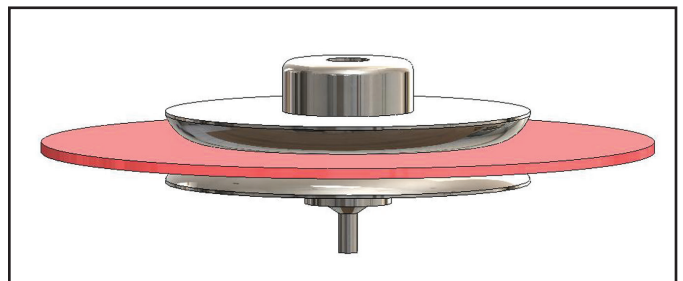

Figure 1: Diaphragm Subassembly
1. Remove adjusting screw assembly (10) completely out of the spring housing (7).
2. If valve is removed from the line, clamp the valve in a vise using the body (1).
3. Remove spring housing (7).
4. Remove range spring (8) and spring seat (9).
5. Remove diaphragm assembly parts (4), (5), and (6). See Figure 1.
7. Remove seat assembly (2) from body (1).
8. Place seat assembly (2) into body (1).
9. Refer to Figure 1. Unscrew the lower diaphragm plate (4) from the upper diaphragm plate (6). Discard the old diaphragm (5) and reassemble with new one. Use LowFlow replacement diaphragm only.